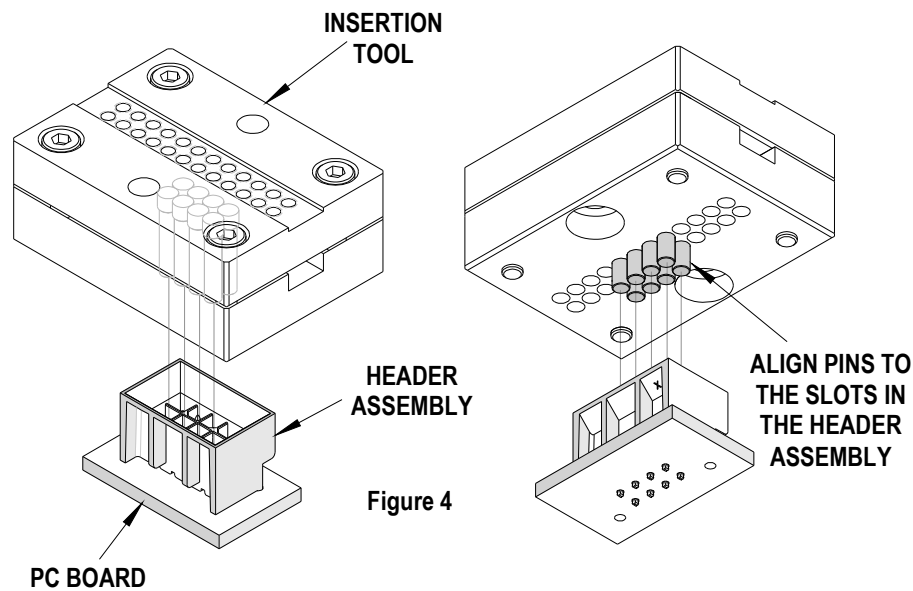

Figure 4
8. Place the insertion tool on top of the header aligning the pins in the slots of the header assembly. See Figure 4.